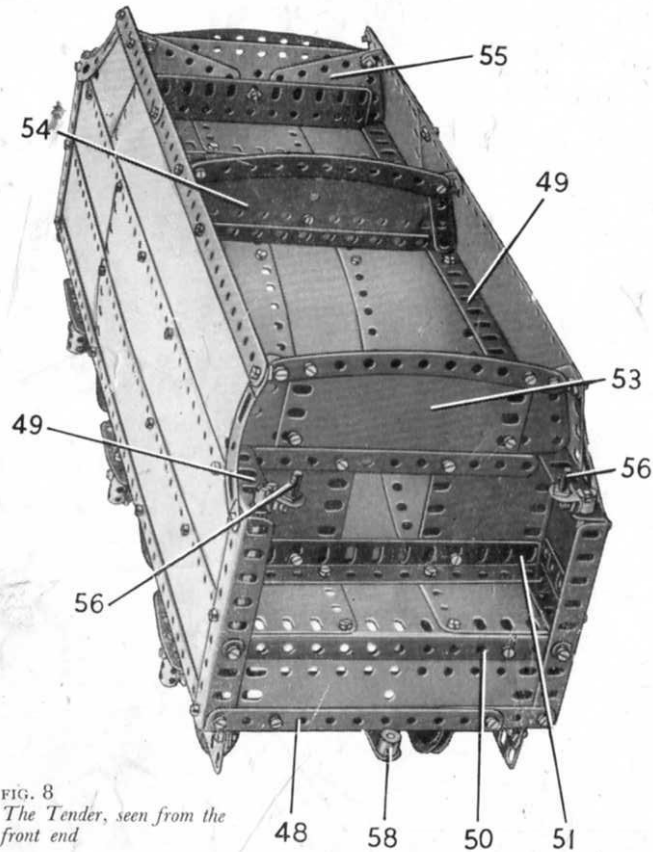

FIG. 8
#### Building the Tender (Figs. 8 and 9)
The partition (53) (Fig. 8) is made by bolting two  $2\frac{1}{2} \times 2\frac{1}{2}$ " Flexible Plates to the
The coupling for attaching the tender to the locomotive consists of a Threaded Pin (57) (Fig. 7), supported by a  $1 \times 1$ " Angle Bracket. The Threaded Pin engages a Crank (58) (Fig. 8) that is lock-nutted to the front of the tender.